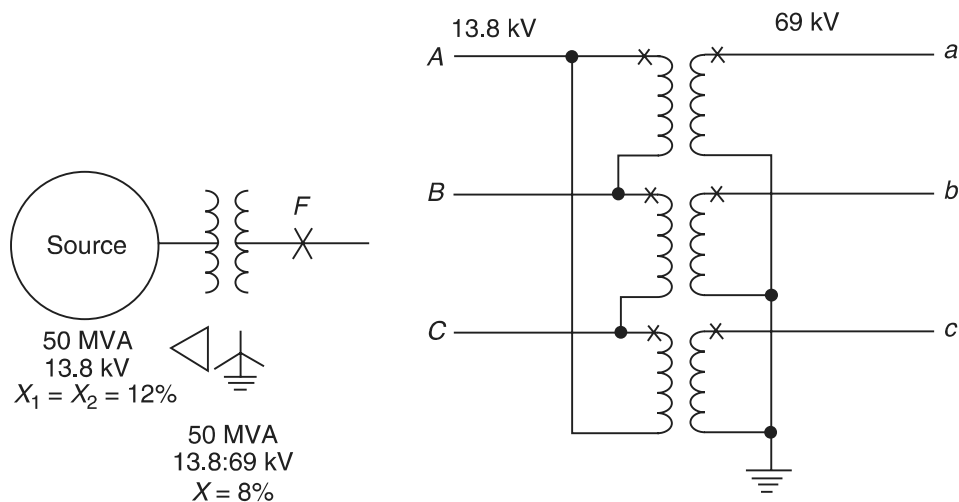

FIGURE P9.1
9.1 Assume for this problem that the 69 kV system (Figure P9.1) is open and make the following calculation: